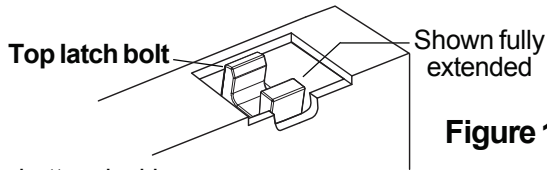

Figure 1
1. Open door and verify top latch bolt is fully extended (Figure 1).